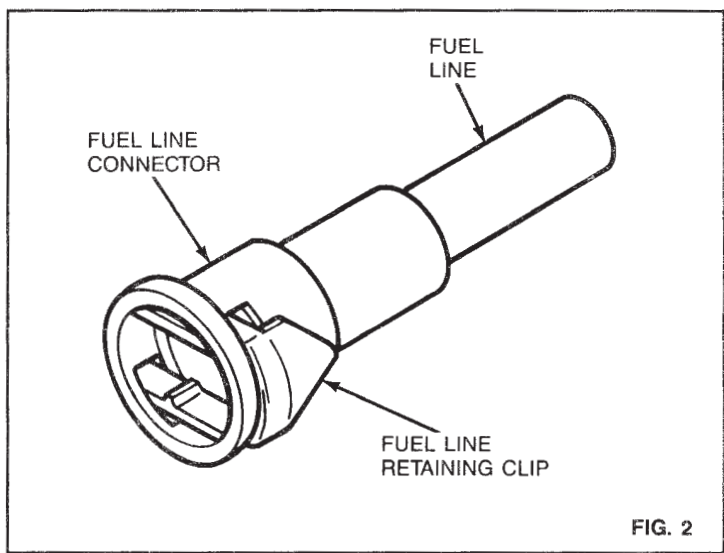

FIG. 2
B) Referring to Fig. 2, install the new fuel line retaining clips, 5/16" (natural/clear) and 3/8" (black), into their respectively sized fuel line connector with the triangular portion of the clip facing away from the fuel line connector opening.